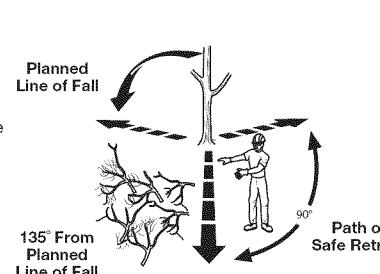

Fig. 17
- Pick your escape route (or routes in case the intended route is blocked). Clear the immediate area around the tree and make sure there are no obstructions in your planned path of retreat. Clear the path of safe retreat approximately 135° from the planned line of fall (Fig. 17).